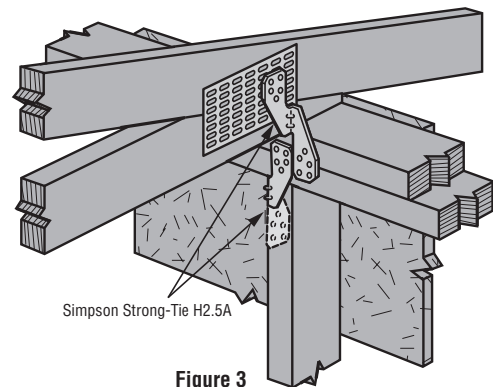

Figure 3
3. Install roof-to-wall and top plate-to-stud connectors on the inside of the wall (see figure 3).